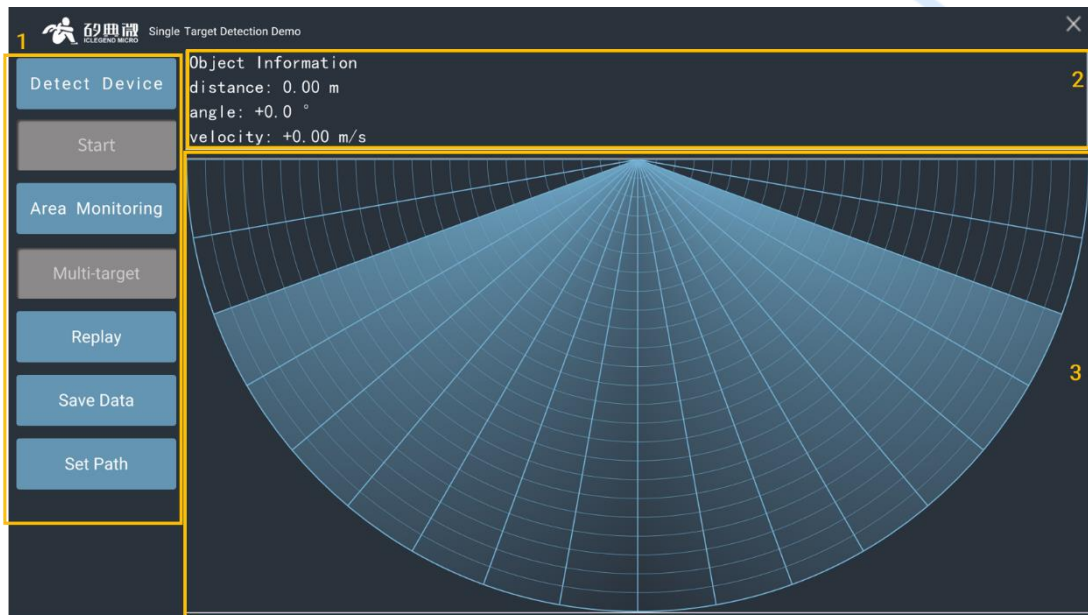

Figure 4-5 GUI of XenP202TT series designs
Step 3: Double click the `ICL_MTT.exe` in the software directory, and the graphic user interface (GUI) will appear as shown in Figure 4-5.